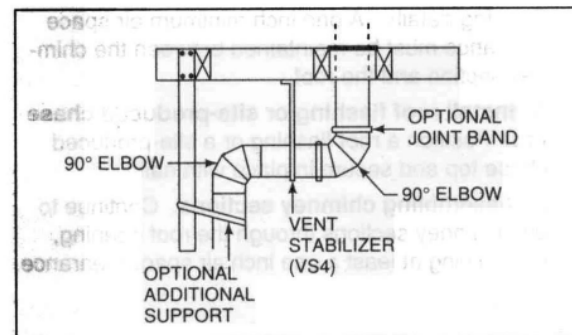

Figure 12
a. Using elbows. To bypass any overhead obstructions, the chimney may be offset using a 90° elbow (VK5). Vent stabilizers (VS4) have straps for securing these parts to joists or rafters. Plumbers tape may be purchased locally and used in conjunction with vent stabilizers. See Figure 12.